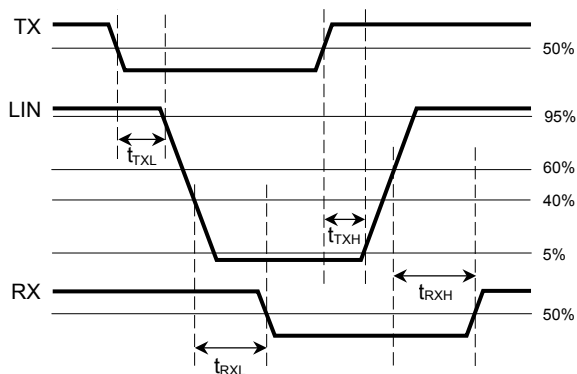

Figure 1. Propagation timing definition
If the supply voltage drops below the UVLO threshold, all outputs are disabled. When the supply voltage rises above the UVLO threshold, the A8420/A8421 is reset into the Sleep mode. From that state, it follows the logic shown in figure 1. That is, if Active is true (T), the A8420/A8421 immediately goes to Standby mode. If EN is high, it goes directly to the normal mode.